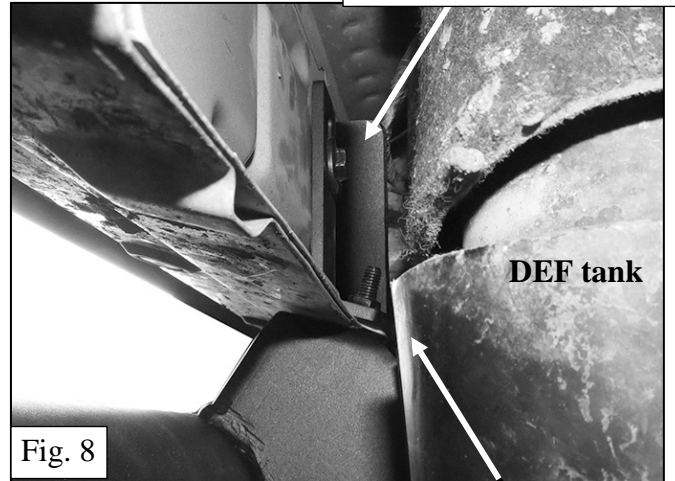

Fig. 8
STEP 13 - Return to the passenger side front mounting location. Line up the short front bracket on the Side Step with the mounting tab on the bottom of the body panel. Line up the inner Support Bracket with the Side Step mounting bracket. Bolt the Side Step bracket to the Support Bracket with (1) 8mm x 40mm Long Hex Bolt, (1) 8mm STD Flat Washer (bottom), (1) 8mm Large Flat Washer (top against Support Bracket) and (1) 8mm Nylon Lock Nut, **(Figure 7)**. NOTE: On models with weld nut on mounting tab, insert 8mm Hex Bolt with (1) 8mm STD Flat Washer up and through the bracket then the weld nut, **(Figure 8)**. Tighten the Hex Bolt then use (1) 8mm Large Flat washer and 8mm Nylon Lock nut to secure the inner Support Bracket to the mounting bracket on the Side Step, **(Figures 7—9)**.